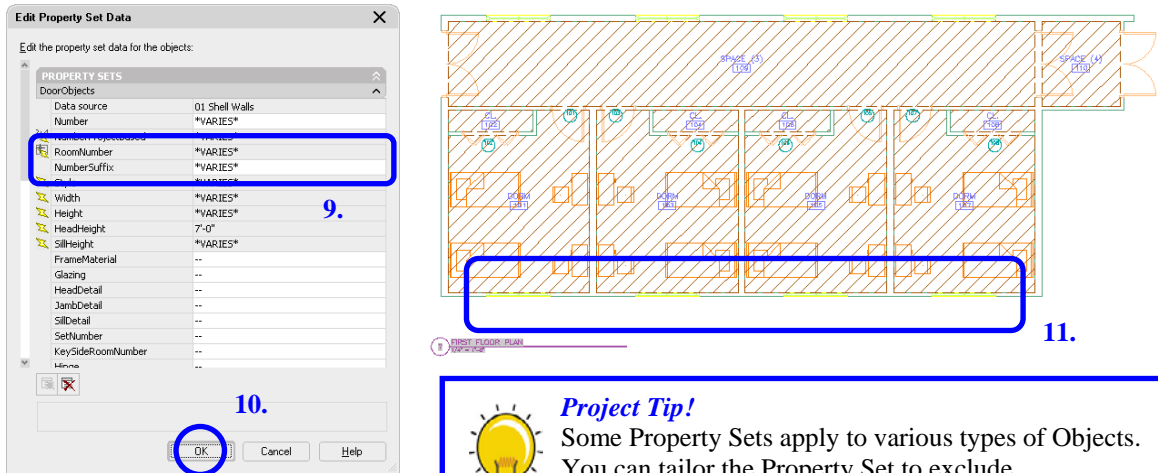

Figure 23
11. Delete the four window tags. (The DoorObjects Property Set applies to Door/Window Assemblies as well.) *Figure 23*